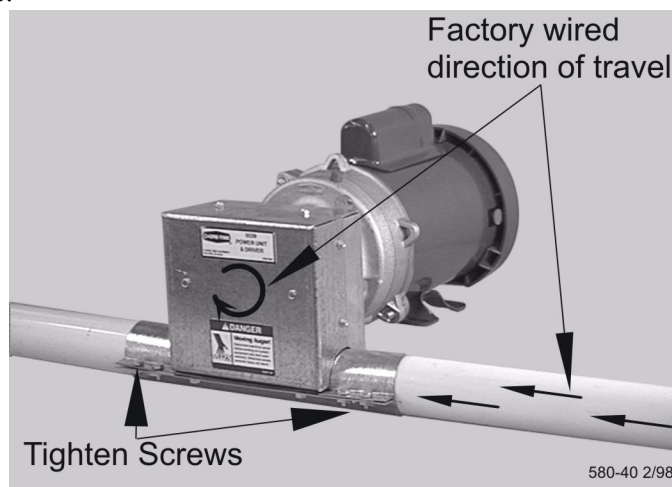

Figure 5. Power Unit and Driver Assembly
2. Measure and cut the tube at the required location of the power unit/driver assembly. Insert the tube as far as possible into the driver assembly housing to provide a sturdy, well-sealed fit. Tighten the screws to hold the tube in place. **THESE SCREWS MUST BE TIGHT!** See Figure 5.